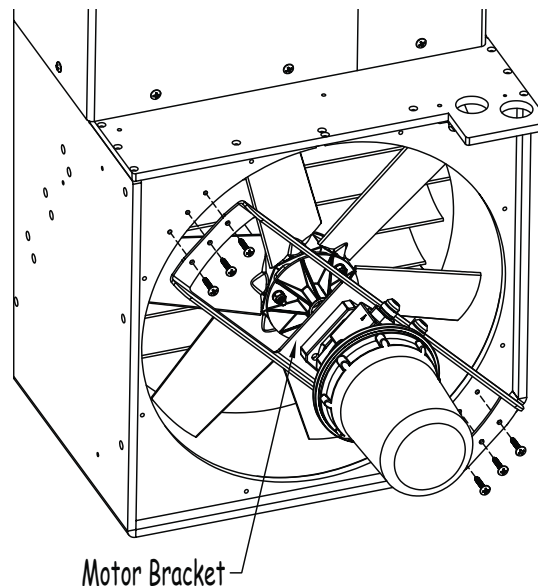

Fig 16
16. The front base and housing can now be positioned away from the front wall of the pool or removed from the pool completely for more access. Carefully remove the motor bracket and hydraulic motor from the propulsion system base. There are six screws on each end of the bracket that secures the bracket to the propulsion base (Fig 16). **NOTE: Take extreme caution when removing the motor bracket assembly. The motor bracket assembly is heavy and can easily pierce the liner.**